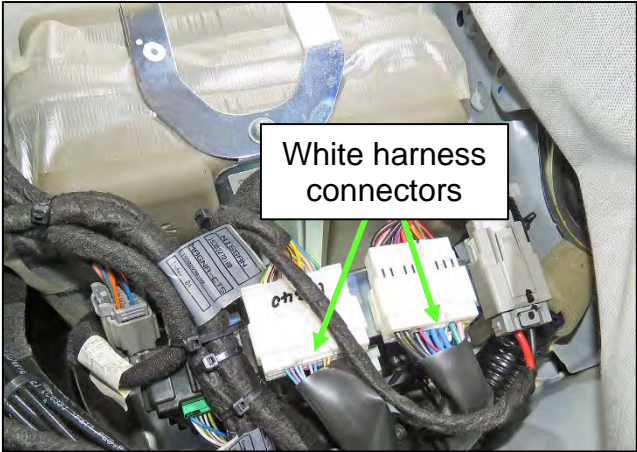

Figure 149
159. Disconnect the two (2) white harness connectors shown in Figure 149.